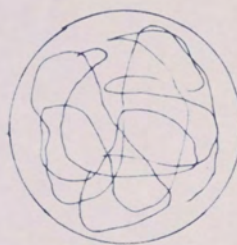

Fig. 8
- 4) The position of tube B should be adjusted until a random and well mixed gas pattern as shown in Fig. 8 is obtained with gas flow rate specified in Step 1) of Table II.